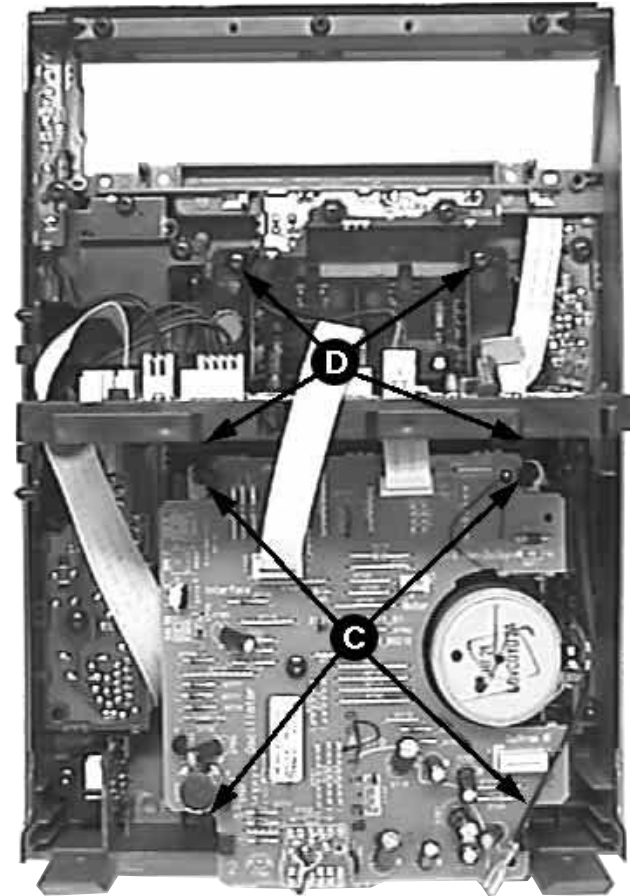

Figure 7
- 1) Loosen 4 screws C in figure 7 to remove the ETF6-LE Module.